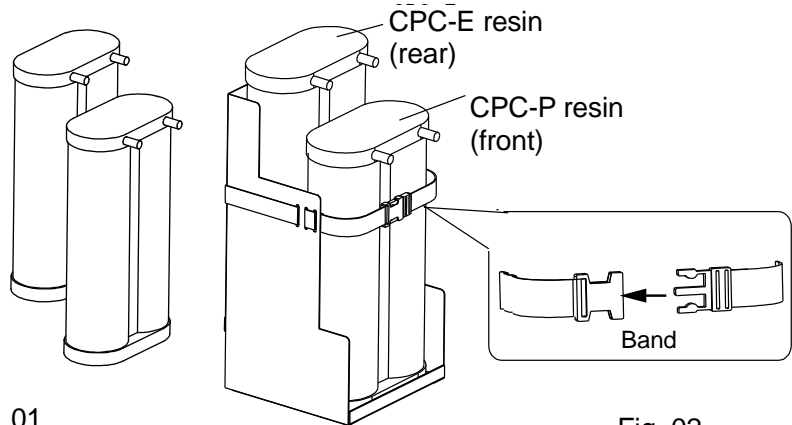

Fig. 02
- (3) Secure the ion exchange resin cartridge with a band to the resin installation plate. (See Figs. 02)